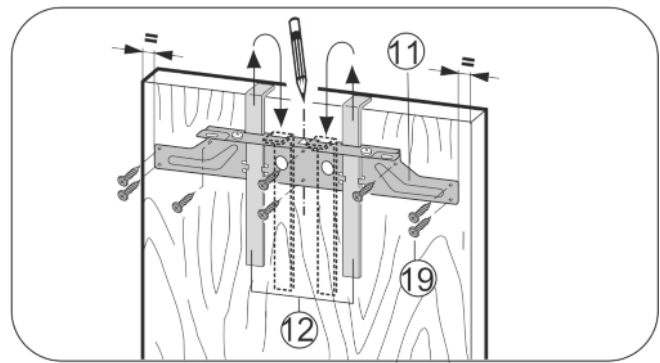

Fig. 21
- ▶ Hang the crosspiece Fig. 21 (11) on the inside of the unit door using the fitting aids Fig. 21 (12). With a 23-5/8 " (600 mm) wide recess:
- ▶ Align the crosspiece Fig. 21 (11) to the middle of the door.
- ▶ Secure the crosspiece Fig. 21 (11) with at least 6 screws Fig. 21 (19).
- ▶ Secure the crosspiece Fig. 21 (11) with 4 screws Fig. 21 (19) at the edge.
- ▶ Lift up fitting aids Fig. 21 (12), turn round and insert into the adjacent openings.